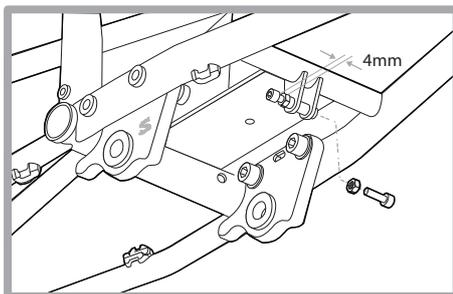

Figure 5
5. Assemble spring anchors on bicycle frame using M5x0.8-16L bolt and M5 nut. Set each bolt head about 4mm from nut. Hold bolt in place (using a 4mm hex wrench) and tighten nut to frame to 4Nm (using an 8mm wrench) (Figure 5).